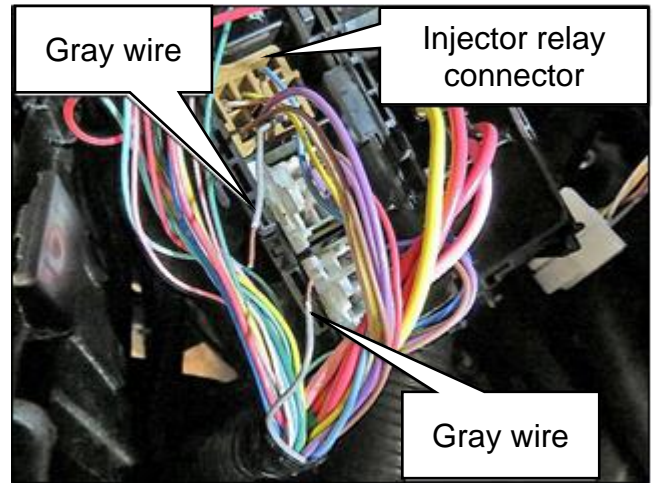

Figure 22
- Approximate location of gray wire cut shown in Figure 22